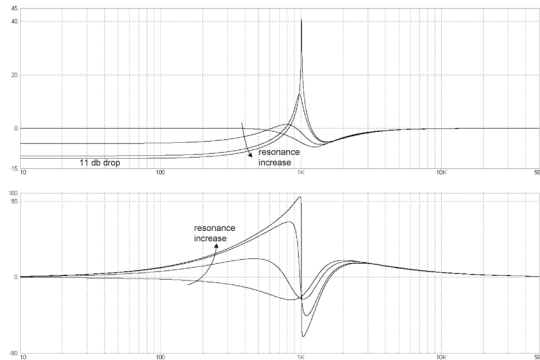

Fig.8.5.25 Allpass
**Please note:** In contradiction to the figures fig. 8.5.2 – fig. 8.5.25, the output level is **-10 db lower than the input level**. If e.g. a lowpass characteristic is selected, fully opened filter ([frequency]-knob in fully clockwise position) and no resonance ([resonance]-knob in fully counter clockwise position), the output level would be **-10 db** attenuated compared to the input level. This affects the filters in general and not only the output sockets (18)/(19).